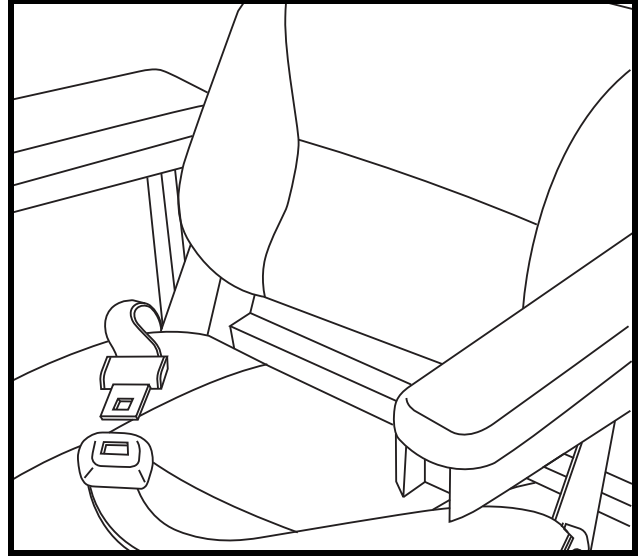

Figure 19. Positioning Belt
2. Place the seat upside down so that you can see the bottom of the seat base. See figure 19.
1. Insert the metal tab on the right side of the belt into the plastic housing on the opposite strap until you hear a “click.” See figure 19.